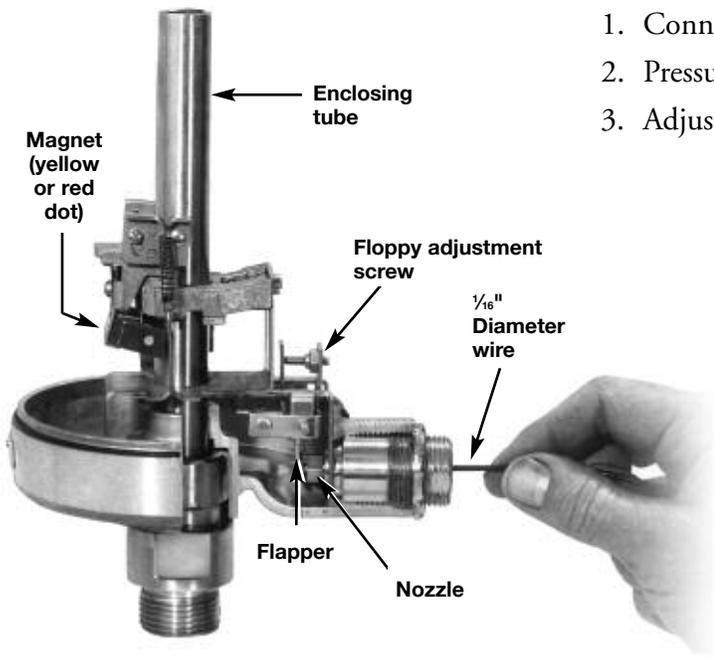

Figure 7
4. Insert a 1/16" diameter wire into the nozzle from the air line connection side. Refer to Figure 7. The wire may be moved back and forth to clean the opening of any accumulated matter.